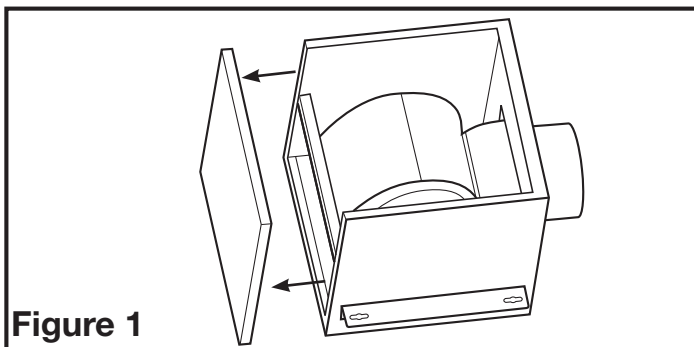

Figure 1
2. Remove the side and top access panels and set aside (Figure 1).